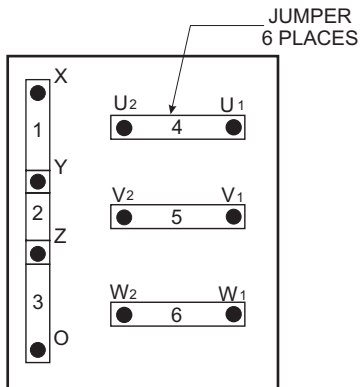

Figure 26. Voltage Change-Over Board 240V Configuration
1. Jumper the voltage change-over board for 240V operation as shown in Figure 26.
1. Make sure the voltage change-over board is jumpered for 240V operation as shown in Figure 26.